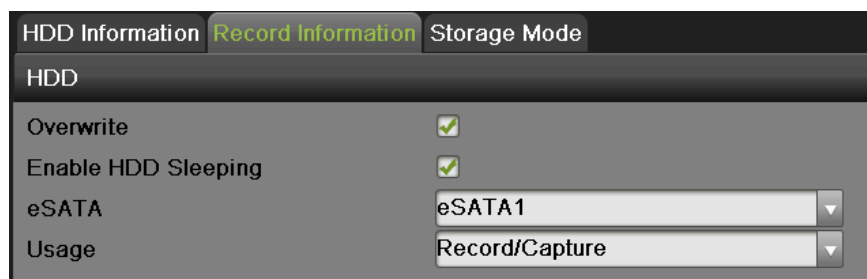

Figure 129 Record Information Menu
2. Select the Record Information tab, as shown in Figure 129.
- Select the Record Information tab, as shown in Figure 129.